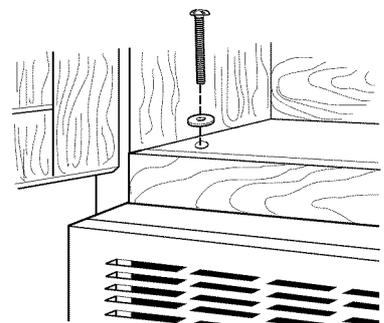

Figure 34
4. Place washers over two, 1/4"x3" bolts. Then insert a bolt down through each hole in the upper cabinet bottom. Tighten the bolts until the gap between the upper cabinet and microwave oven is closed. See Figure 34.